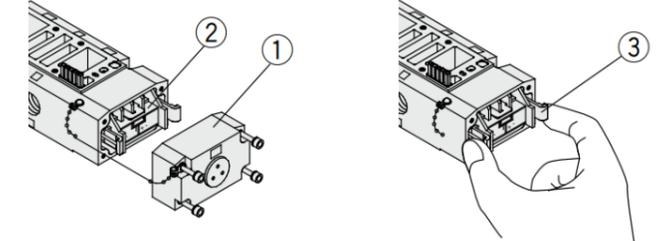

Figure 14. Plug-in (conduit terminal) electrical connection (VFR5000)
- Terminal block assembly is wired as shown in Figure 14. Connect it to each power supply side.